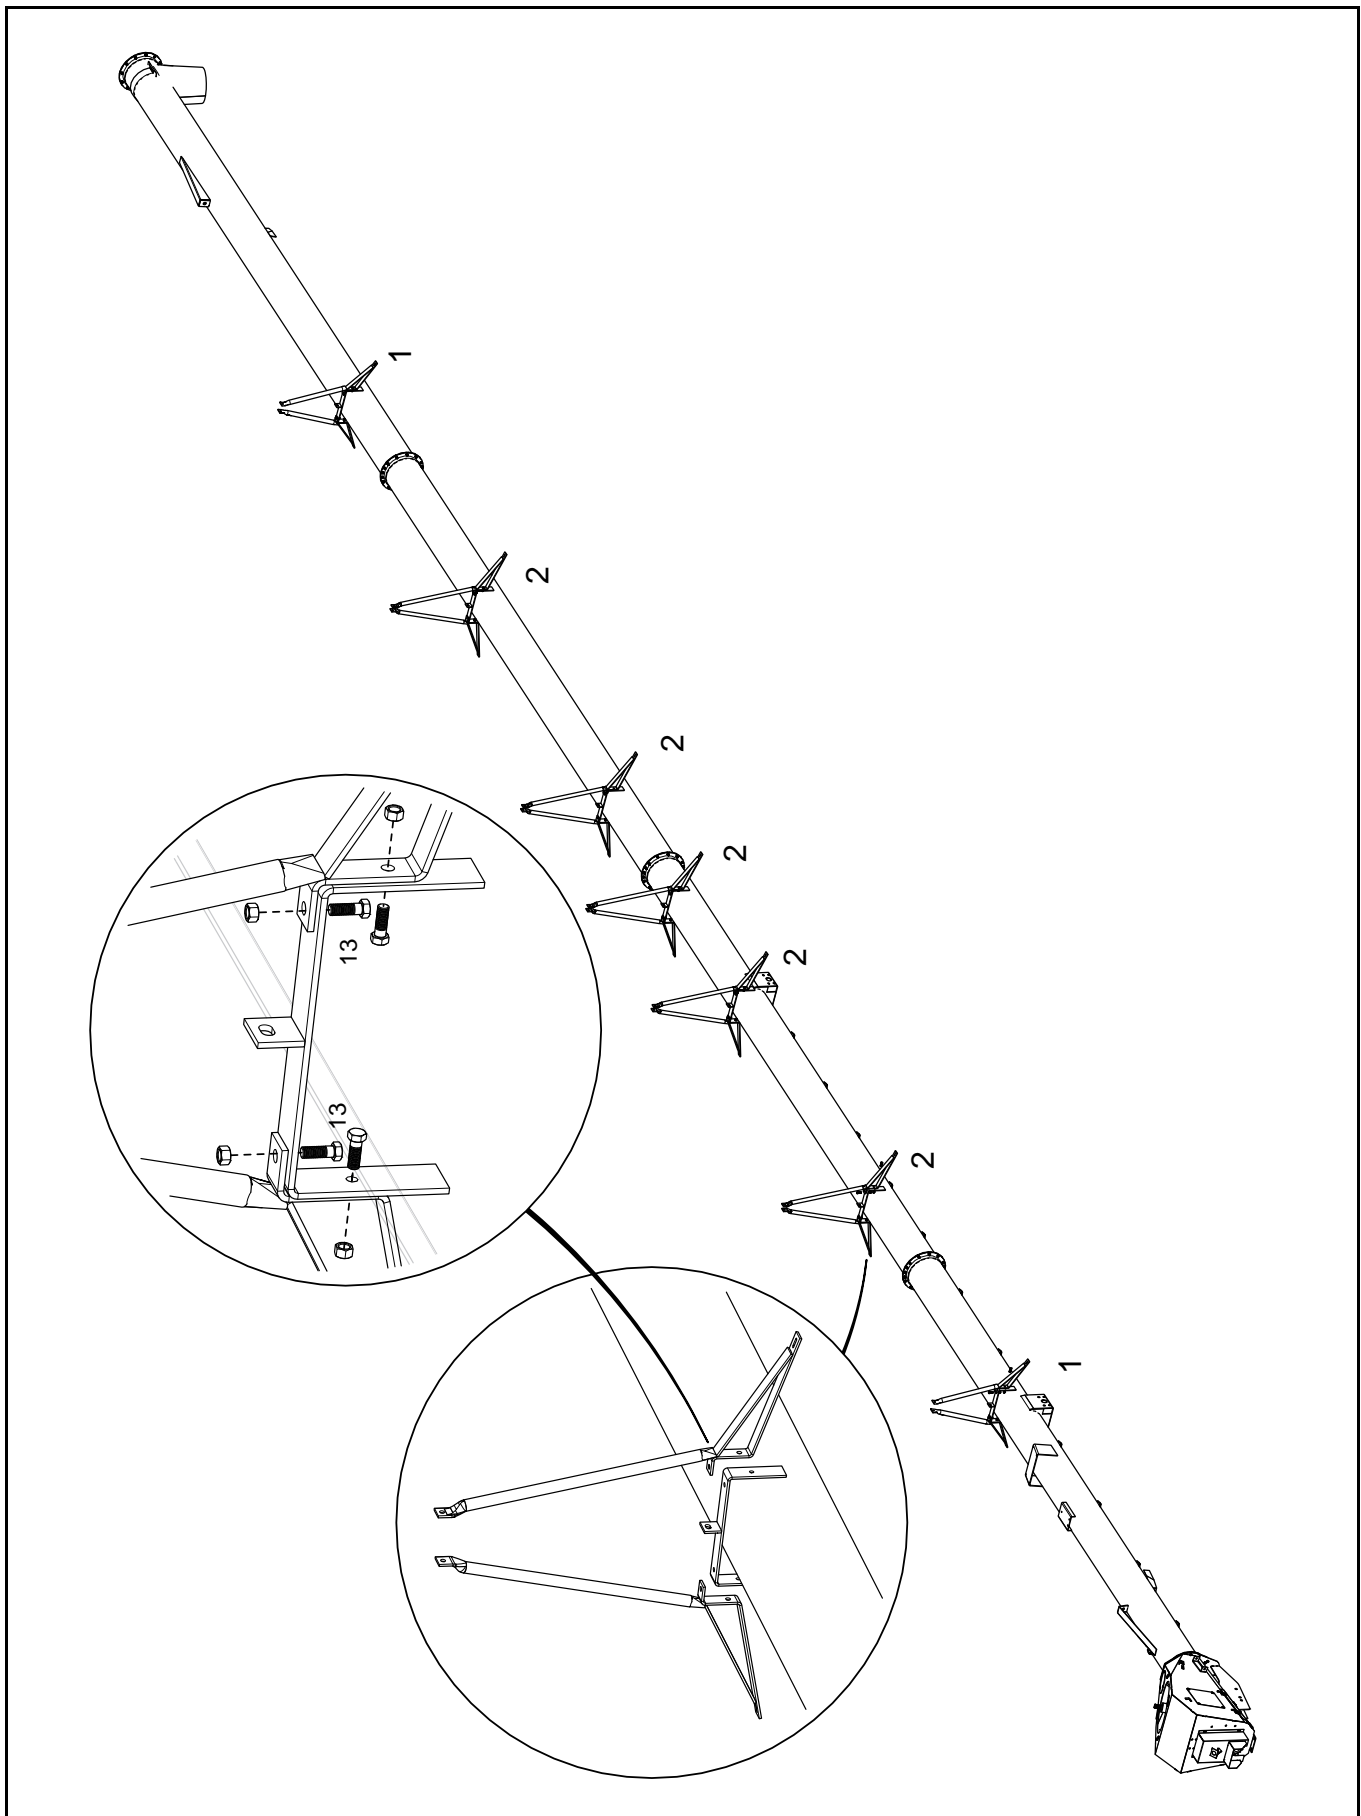
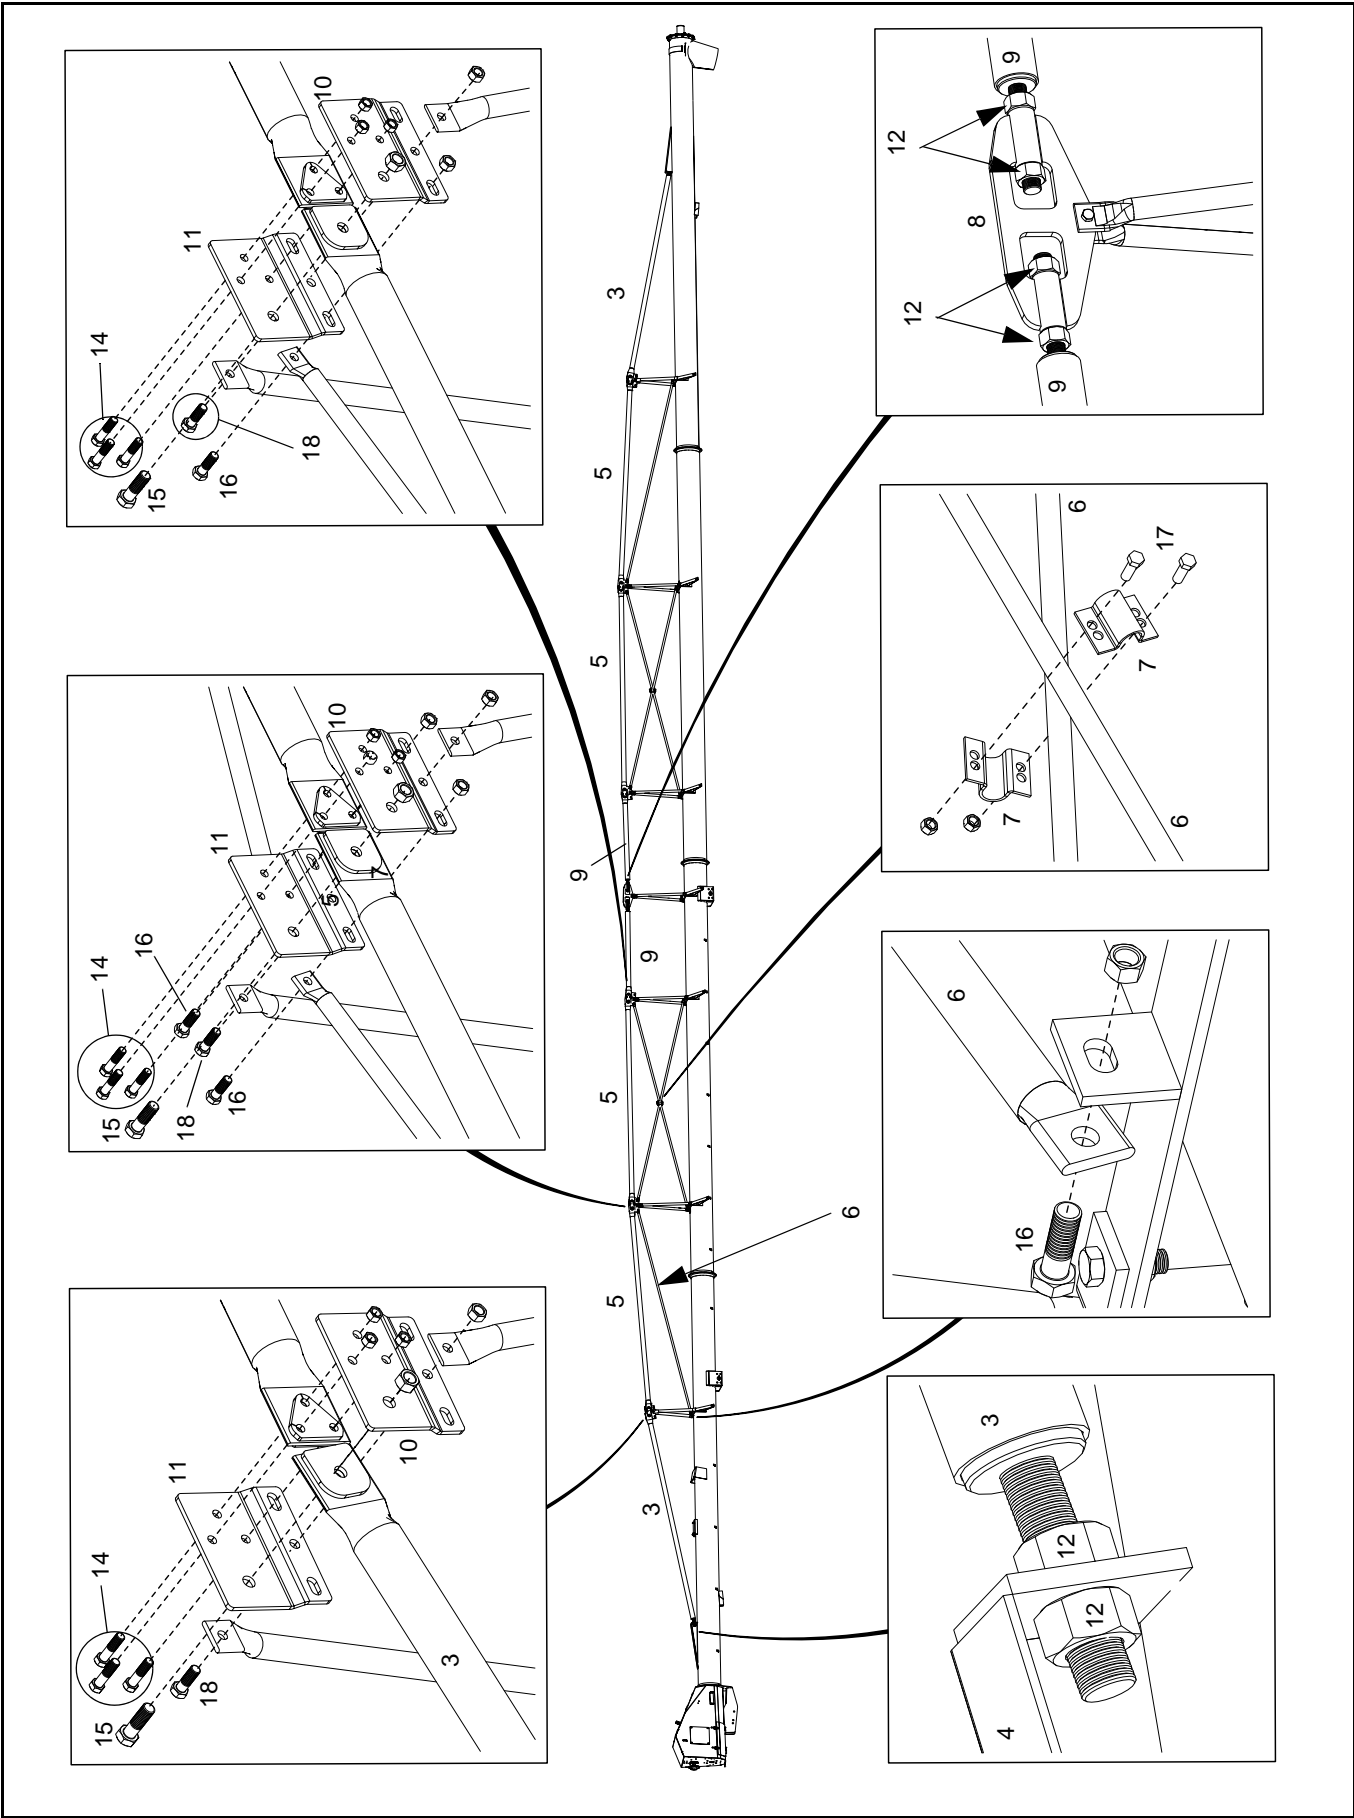

Figure 3.14 X130-84 Truss Towers
Figure 3.15 X130-84 Truss Tubes
- For the X130-84 models, see Figure 3.14 and Figure 3.15.